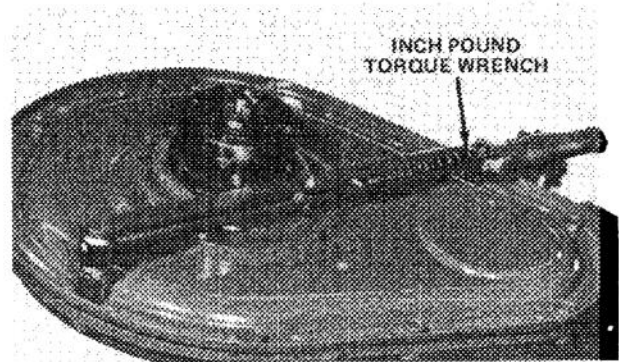

Figure 48
44. Position left-hand gear case cover and secure with ten (10) self-tapping screws. Torque screws to approximately 125 in.-lb (14.1 N·m). (Fig. 48).